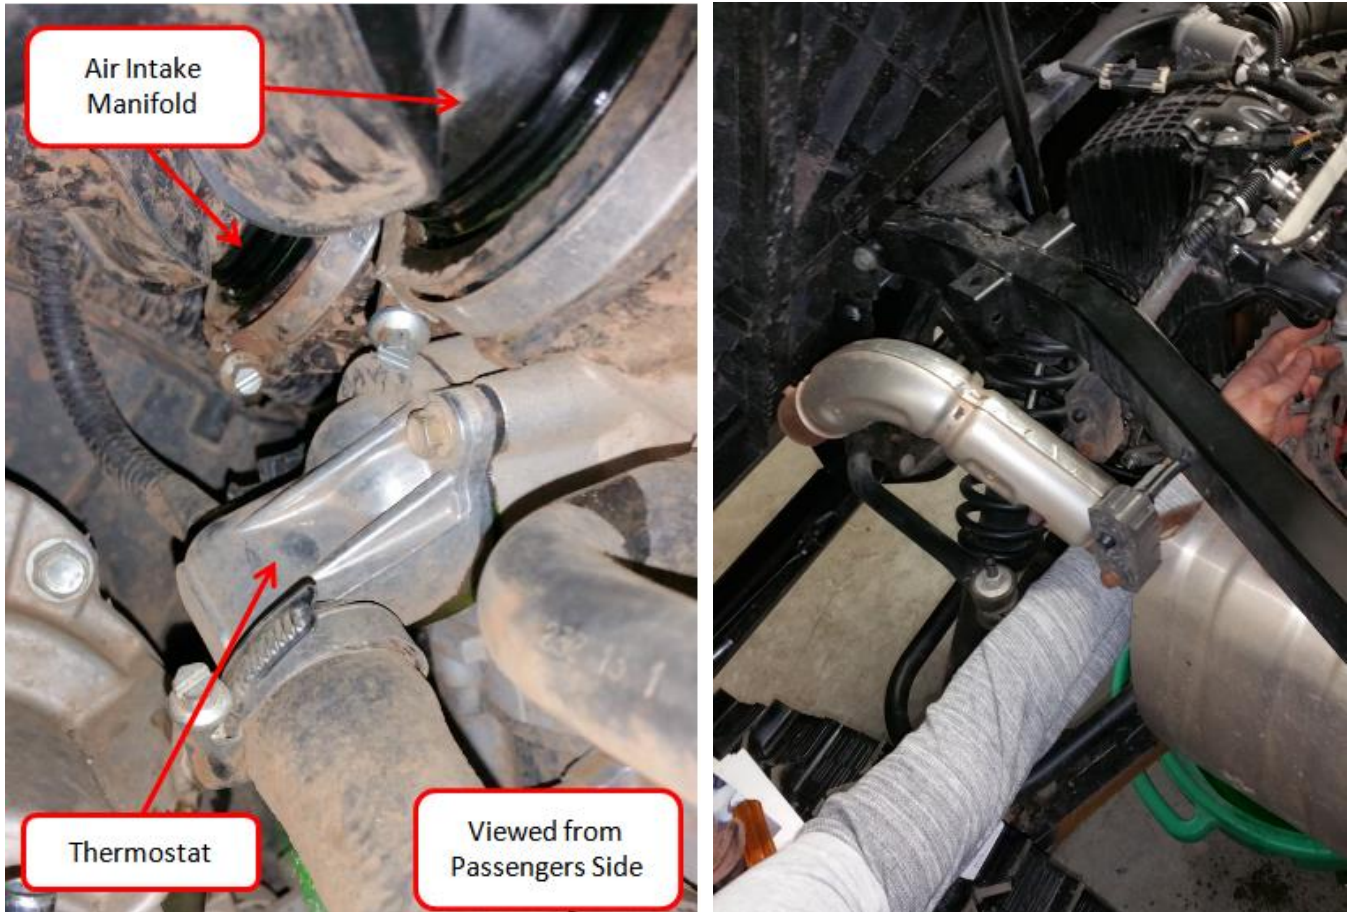

Figure 4
8. Remove the thermostat shown in the left side of Figure 4 using an M8 socket wrench (1/4" Drive) from the passenger side of the vehicle.